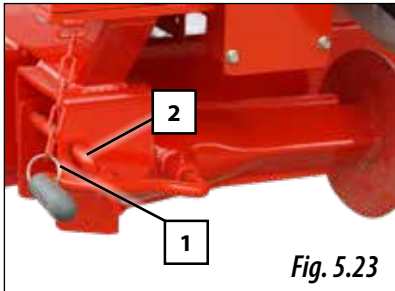

Fig. 5.23
- 1- Remove the crank fastening chain (1, Fig. 5.23)
- 2- Hold the support foot with one hand and remove the security pin with the other hand (2, Fig. 5.23).
- 2- Lift the support foot up to reaching the horizontal position (Fig. 5.23) and place the security pin (2, Fig. 5.23).
- 3- Place the crank fastening chain (1, Fig. 5.23)